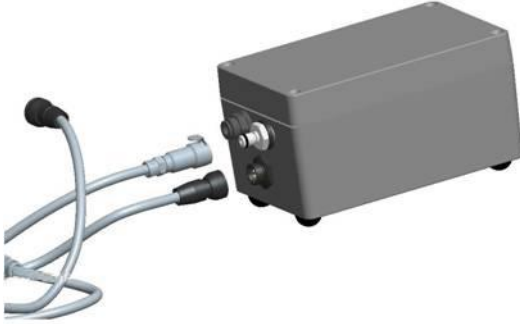

Figure 2-3: Connect Pump End of Quick Connect to Pump Module
1. Connect the pump end of the quick connect to the pump module (see Figure 2-3).